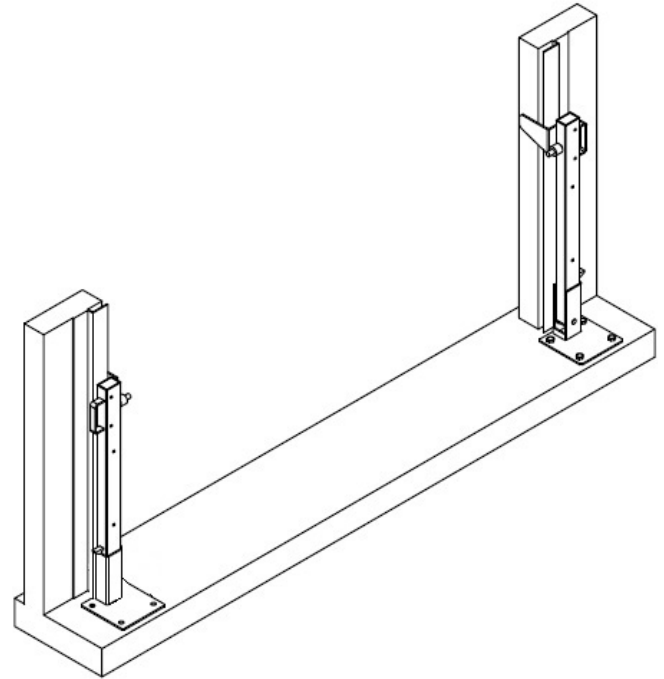

Figure 9
7. Lift the Door SHIELD by the handle to the vertical position and engage on the lock. See Figure 9.